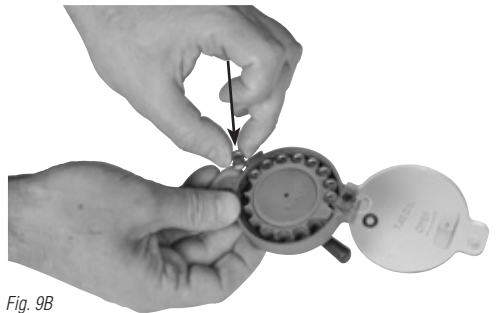

Fig. 9B
4. Load the remaining pellets into the other open locations in the magazine **(Fig.9B)** and return the magazine cover to the fully-closed position. Be sure that the protrusion on the